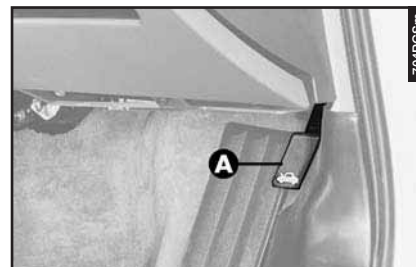

fig. 7
- Pull the lever (**A-fig. 7**) until the bonnet clicks open.